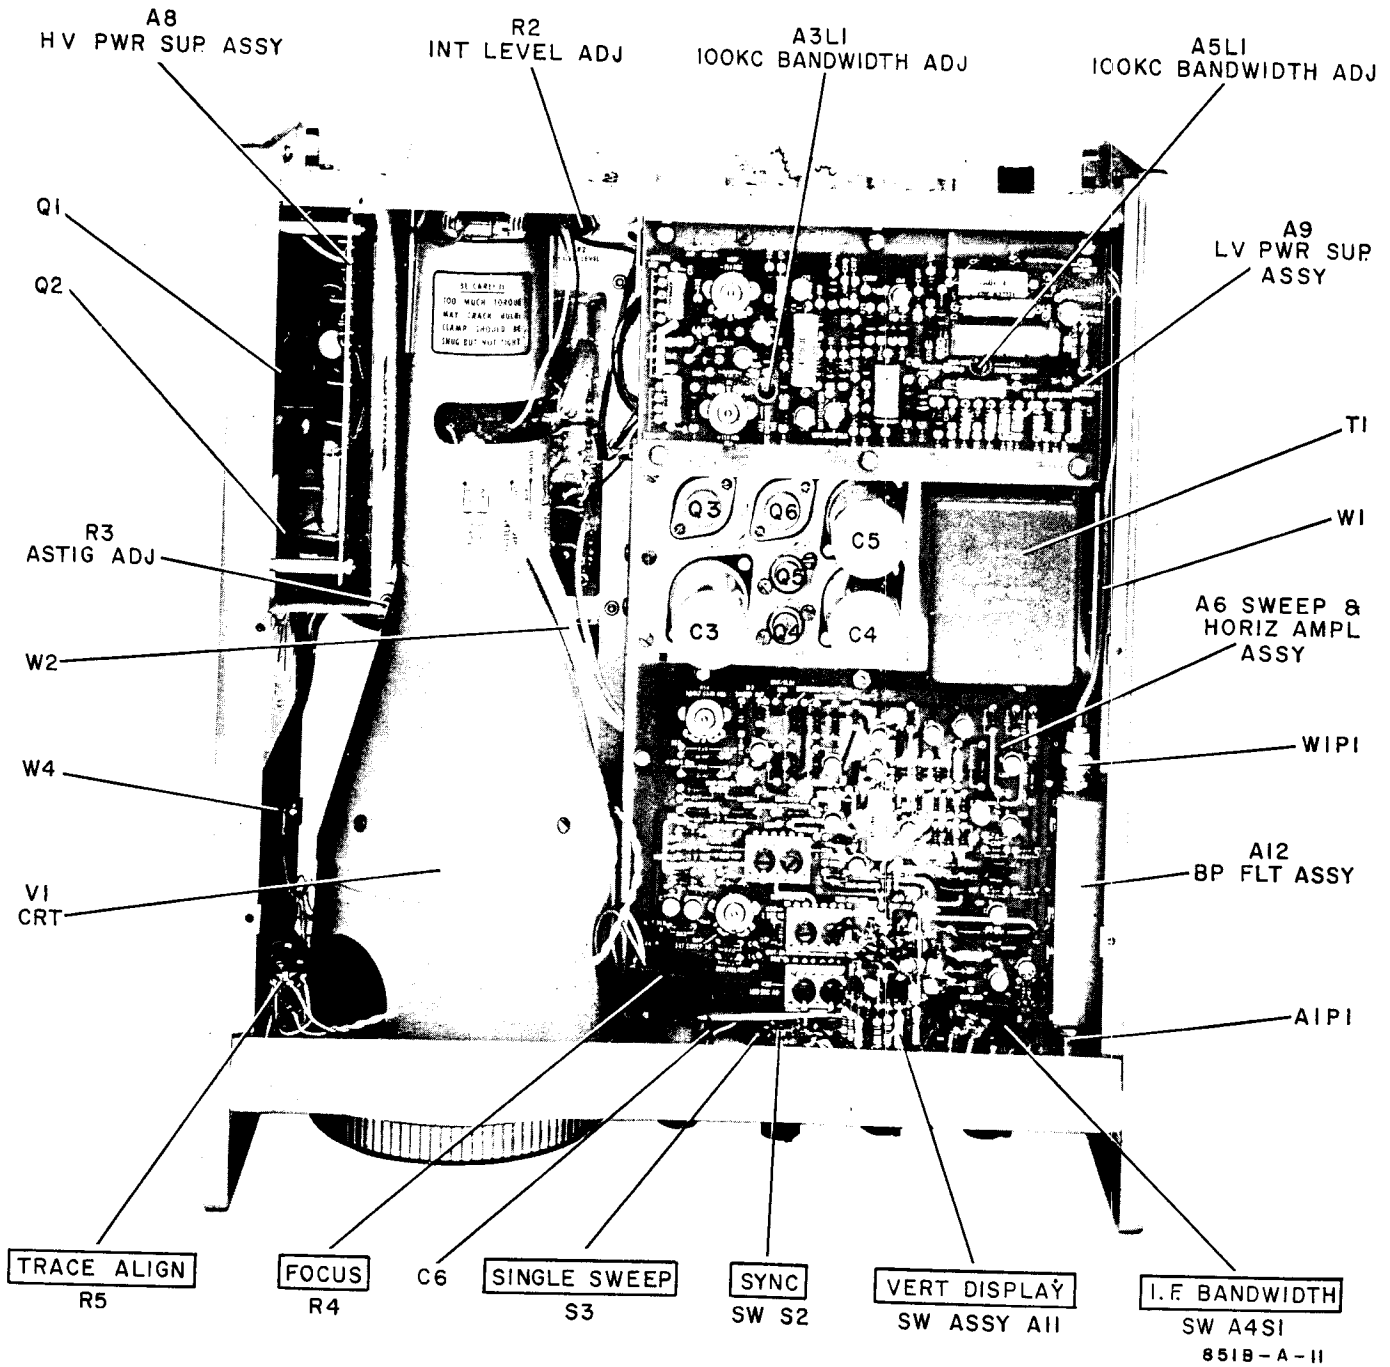

Figure 5-10. 851B Spectrum Analyzer Display Section,
a. If a component is mounted on an Assembly board, the designation is prefixed with the Assembly number, e.g., A1R5. Location of each Assembly is called out in Figures 5-10 and 5-11. In addition, a picture of
5-148. TRANSISTORS Q1, Q2. Location of Q1 and Q2 on the left side of the chassis is called out on Figures 5-10 and 5-11. To test these transistors it is necessary to remove the left (and top) cover plates. To replace Q1 or Q2, it is necessary to remove both the bottom and left-side cover plates. Base, emitter, and collector terminals are identified on the inner side of the deck that Q1 and Q2 are mounted on.
5-149. TRANSISTORS Q3, Q4, Q5, Q6. To replace Q3, Q4, Q5, or Q6, it is necessary to gain access to the under side of the deck (see Figure 5-10) on which they are mounted. Procedure follows: